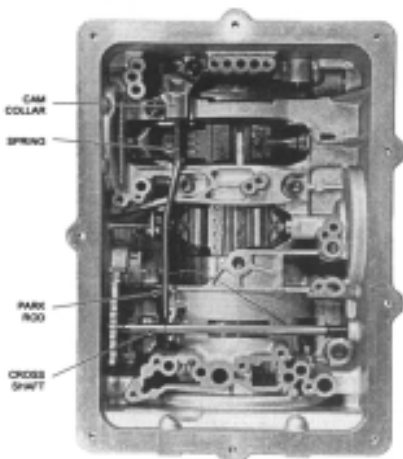

Figure 8.14 Parking lever and manual shaft
- h. Connect the parking brake lever to the manual-operated valve connecting rod. Shown as Figure 8.14. Ensure the spring and cam axle ring are installed on the connecting rod fixedly.